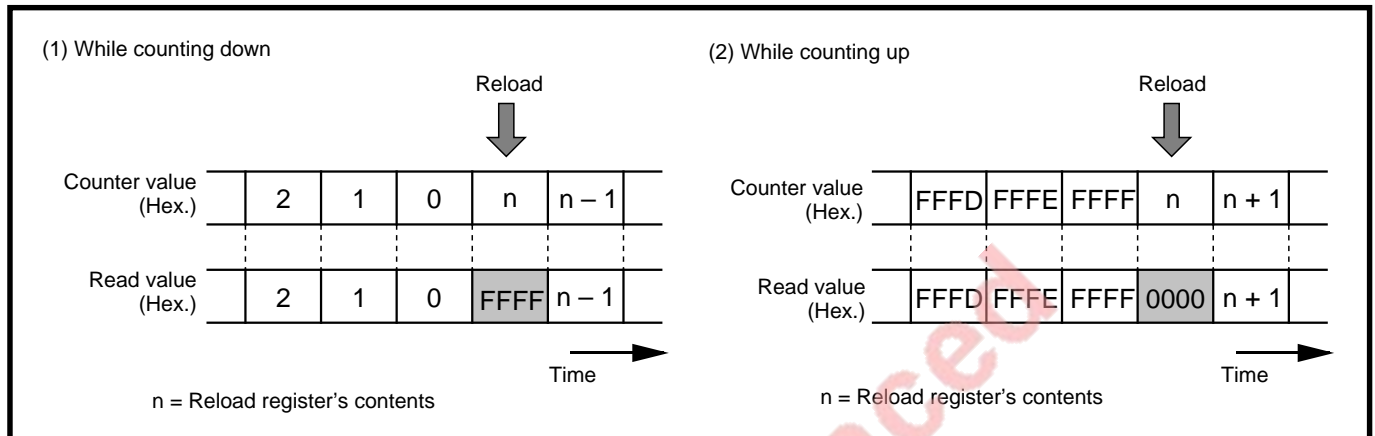

Fig. 6.4.11 Timer Ai register read out
- While counting is in progress, by reading out the timer Ai register, the counter value can be read at an arbitrary timing. However, when reading is performed at the reload timing shown in Figure 6.4.11, value “FFFF₁₆” is read out at an underflow and value “0000₁₆” is read out at an overflow. If reading is performed in the period from when a value is set into the timer Ai register with the counter stopped until the counter starts counting, the set value is correctly read out.